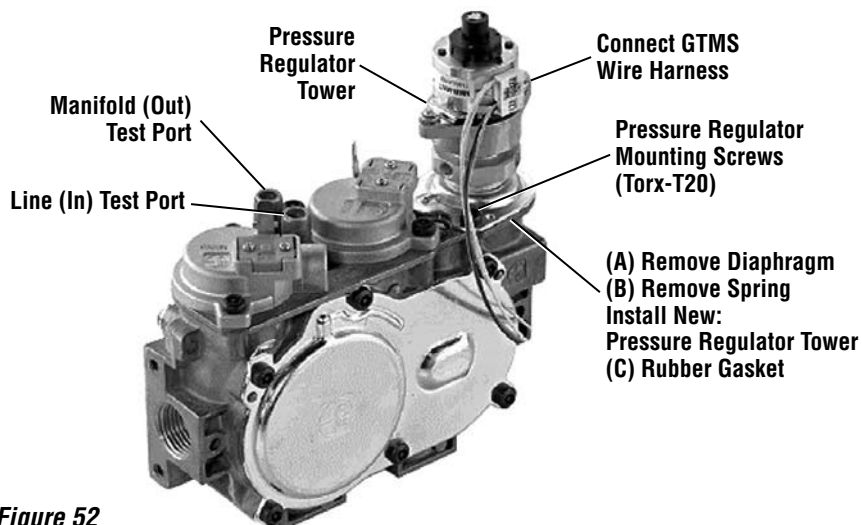

Figure 52
Step 5. SIT Systems - Refer to **Figure 52** and the instructions provided with the kit. **Discard all removed components.**
Step 7. See **Figure 52**. Using a Torx T20, or slotted screwdriver, remove and discard the two (2) pressure regulator mounting screws, pressure regulator tower, the diaphragm assembly (A) (if applicable) and the spring (B).
Step 8. Ensure the rubber gasket (C), which is pre-fitted as part of the assembly, is properly positioned (see **Figure 52**).
Step 12. Attach manometer to the manifold side pressure test fitting and verify manifold pressure reads 3.5 inches water column (0.87 kPa) for natural gas, and 10.0 inches water column (2.49 kPa) for propane gas (see **Figure 52**).